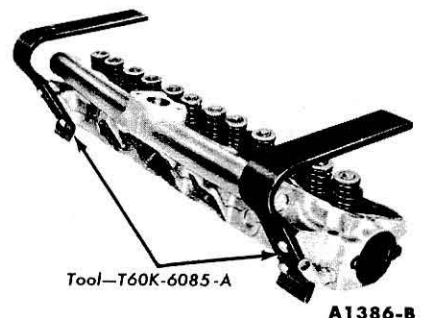

FIG. 28—Cylinder Head Holding Fixtures
1. Install the cylinder head holding fixtures (Fig. 28). Remove deposits from the combustion chambers and valve heads with a scraper and a wire brush before removing the valves. **Be careful not to scratch the cylinder head gasket surface.**